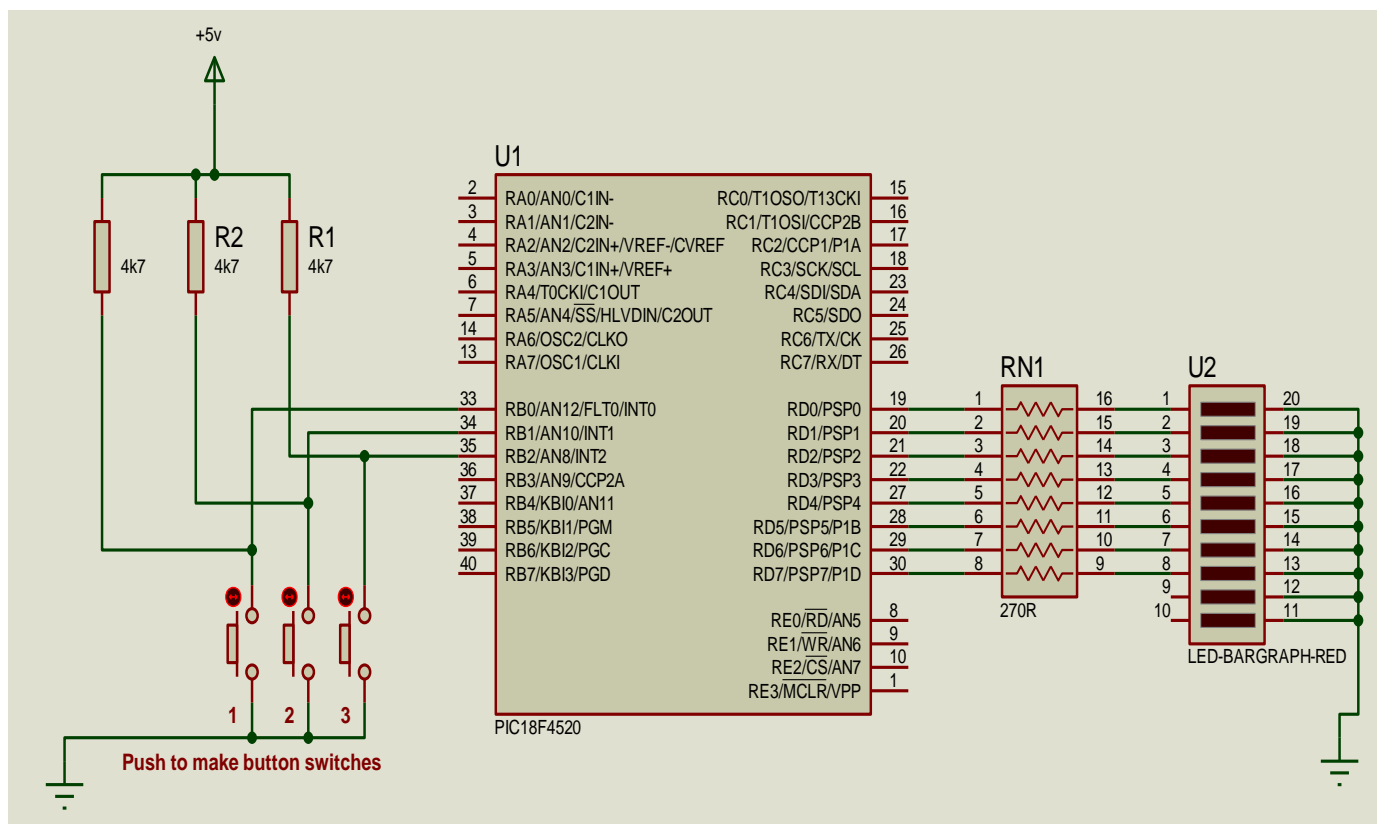
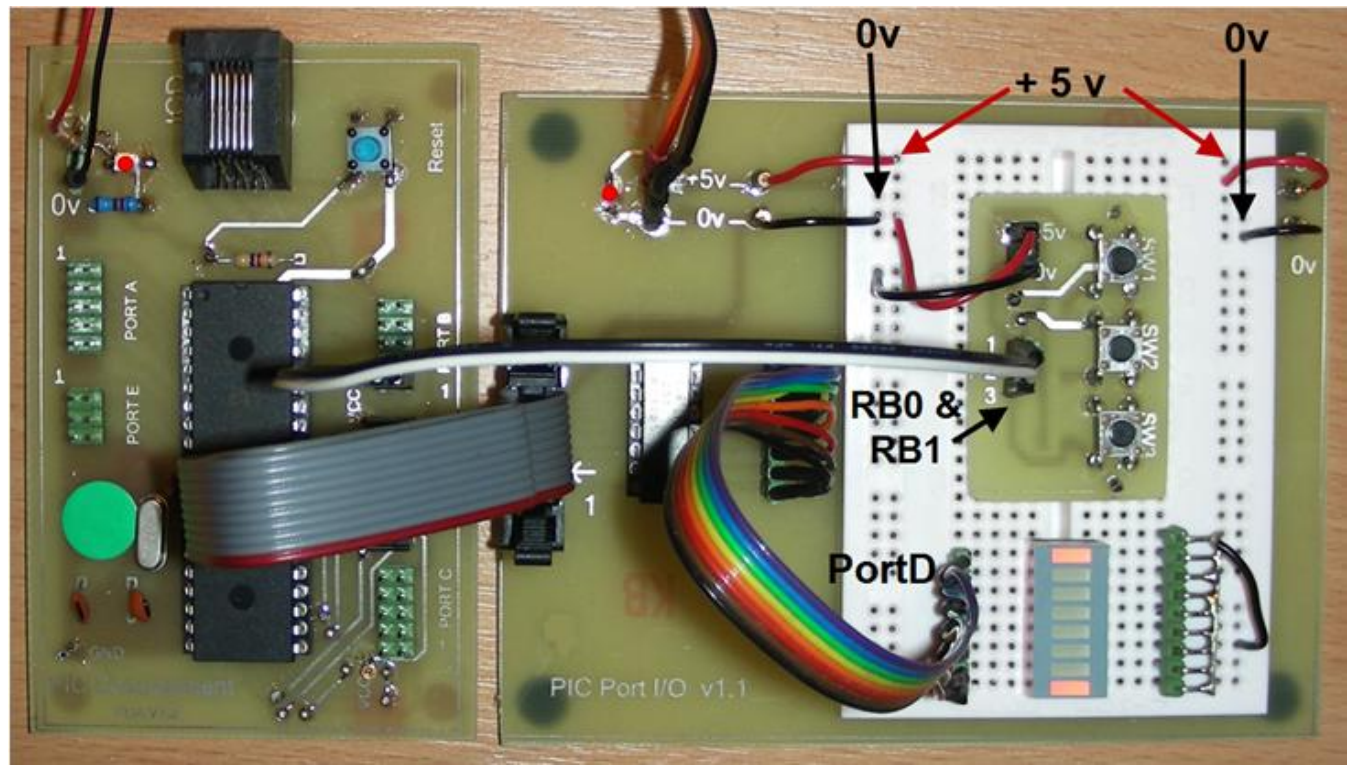

Fig. 9 System connections for interrupt experimentation
Fig.14 System connections screenshot
The following diagram in Fig. 9 shows the system components and connections for the experimentation that follows. We will be examining the various external hardware PORT B interrupts. This session will not cover any PIC18 peripheral interrupts as these will be dealt with corresponding PIC18 peripherals study.
1. ADCON 1 is used to control the voltage reference of the ADC. It is also used to specify the use of I/O functions of the PIC18. Register bits PCFG0- 3 specify the function of Ports A, B and E pins as analogue or digital I/O (see page 7 of the PIC18 ADC laboratory notes). By setting PCFG0 – 3 to 0111 Port B bits 0 to 4 (AN8- AN12) are configured as digital I/O. See figures 9 and 10.
System connections for the experimentation that follows are as shown in Fig.14. Refer to the schematic diagram as shown in Fig.9 for connections detail.